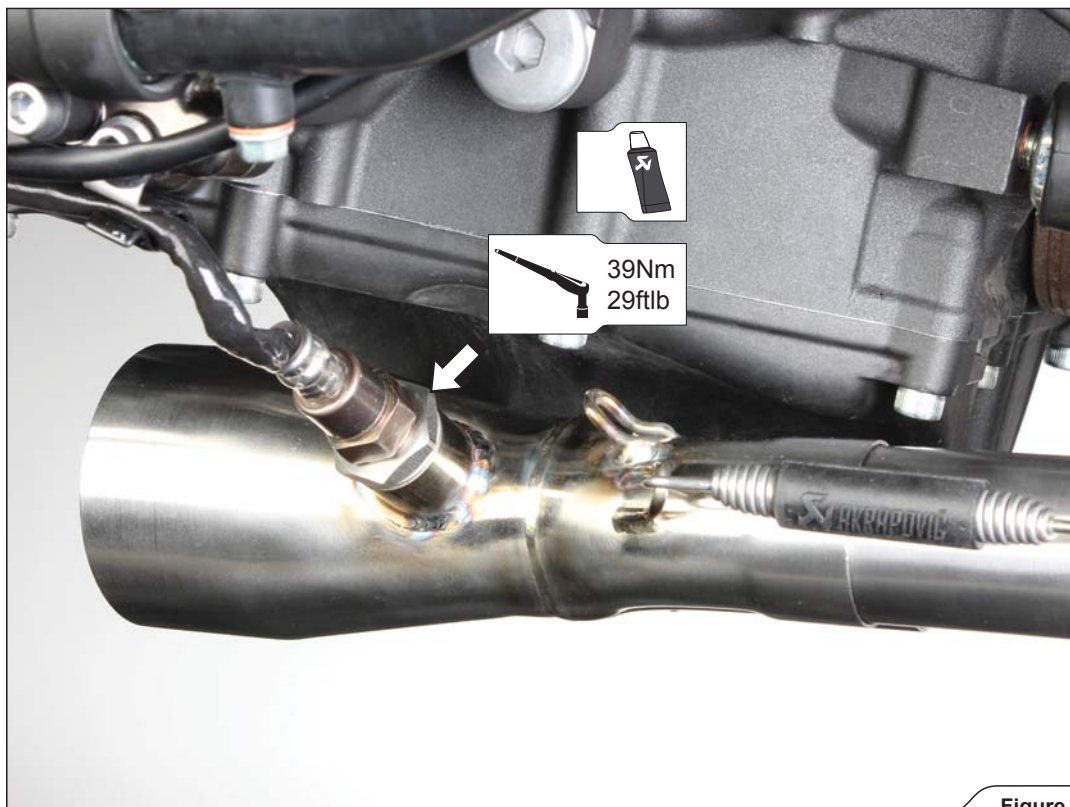

Figure 9
- ! **WARNING:** make sure not to damage the lambda sensor's electrical lead during this process (Figure 9)!